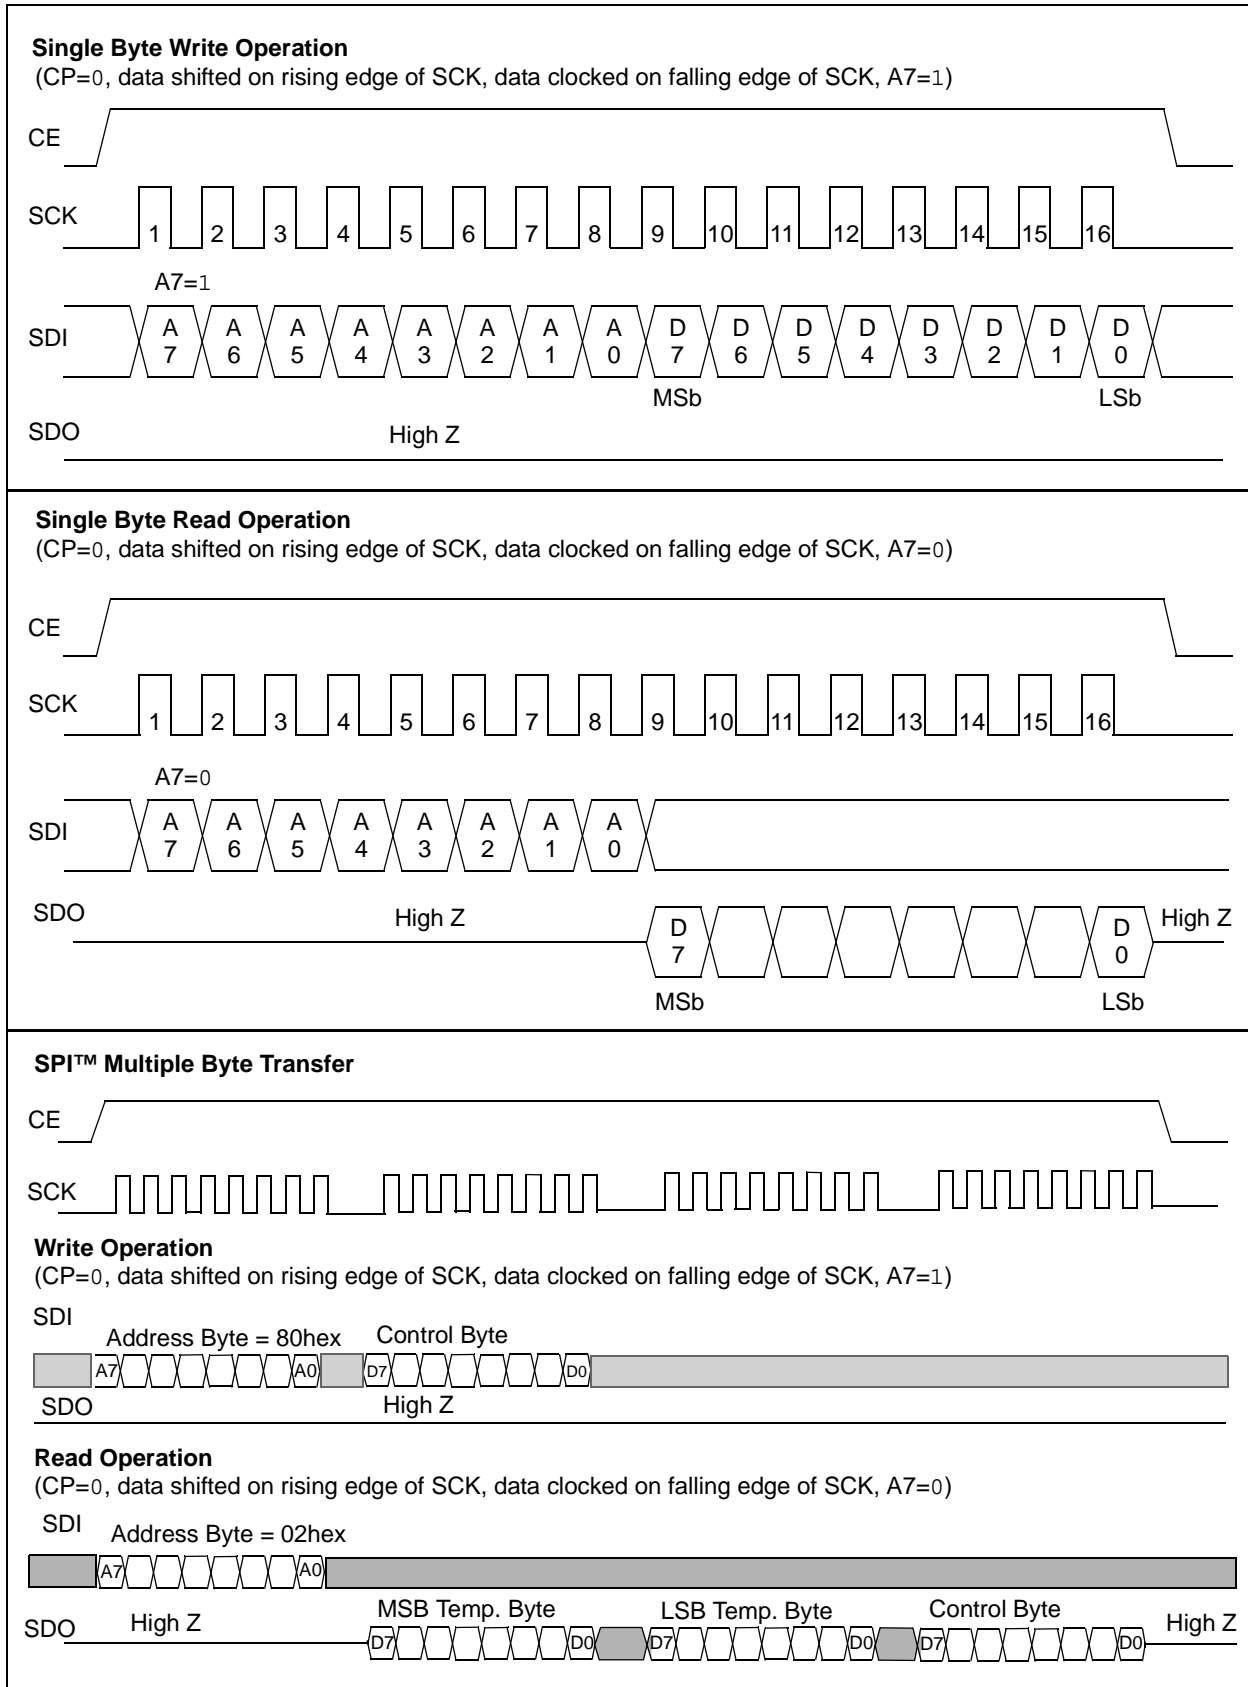

FIGURE 4: Serial Interface Timing Diagrams (CP=0).
The SCK input is provided by the external micro-controller and is used to synchronize the data on the SDI and SDO lines. The SDI input writes data into the TC72's control register, while the SDO outputs the temperature data from the temperature register and the status of the shutdown bit of the control register. The TC72 has the capability to function with either an active-high or active-low SCK input. The software developed in this demo uses an active-high SCK signal (CP=0). Each data bit is transferred at each clock pulse, with the data bits being clocked in groups of eight bits, as shown in Figure 4.
Data can be transferred either in a single byte or a multi-byte packet, as shown in Figure 4. In the 3-byte packet, the data sequence consists of the MSb and LSb temperature data, followed by the control register data. The multi-byte read feature is initiated by writing the highest address of the desired packet to registers. The TC72 will automatically send the register addressed and all of the lower address registers, as long as the Chip Enable pin is held active.
The temperature and control register data is outputted from the TC72 using the CE, SCK and SDO lines. Figure 4 shows a timing diagram of the read operation. Communication is initiated by the chip enable (CE) going high. The SDO line remains at the voltage level of the LSb bit that is outputted and goes to the tri-state level when the CE line goes to a logic-low level.
Data is clocked into the control register in order to enable the TC72's power-saving Shutdown mode. The write operation is shown in Figure 4 and is accomplished using the CE, SCK and SDI lines.